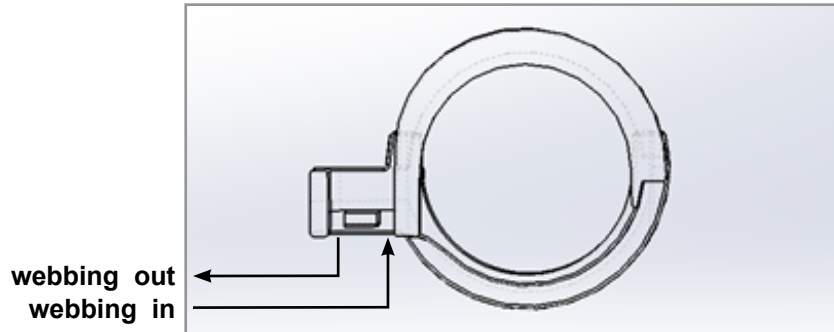

Fig.19
6. Loop canvas webbing through cam locks (**Fig.19**), then tension webbing snugly.